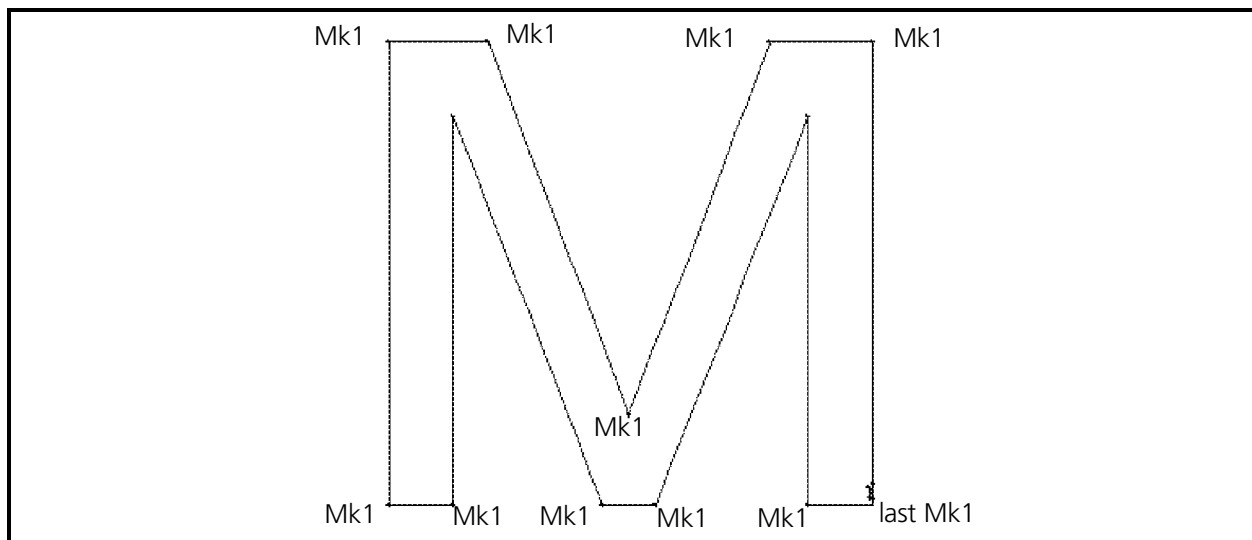

Figure 6-29
- To generate running stitches from the bottom right corner to the top right corner, put a Mk1 at the top right corner (see Figure 6-29). Follow the same method to place these Mk1s as you did for the previous Mk1s.
- Now go left to the next corner and enter another Mk1 (see Figure 6-29).